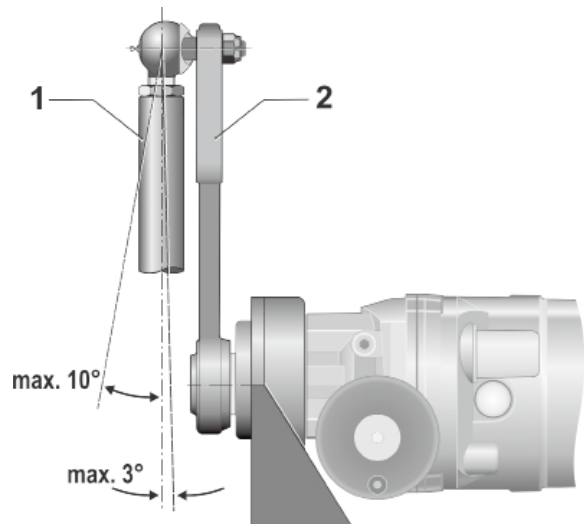

Fig. 1: Mounting position Rod to swing lever
1. Align mounting positions so that the motion planes of the damper rod (fig. 1, item 1) and the valve levers (item 2) are parallel.